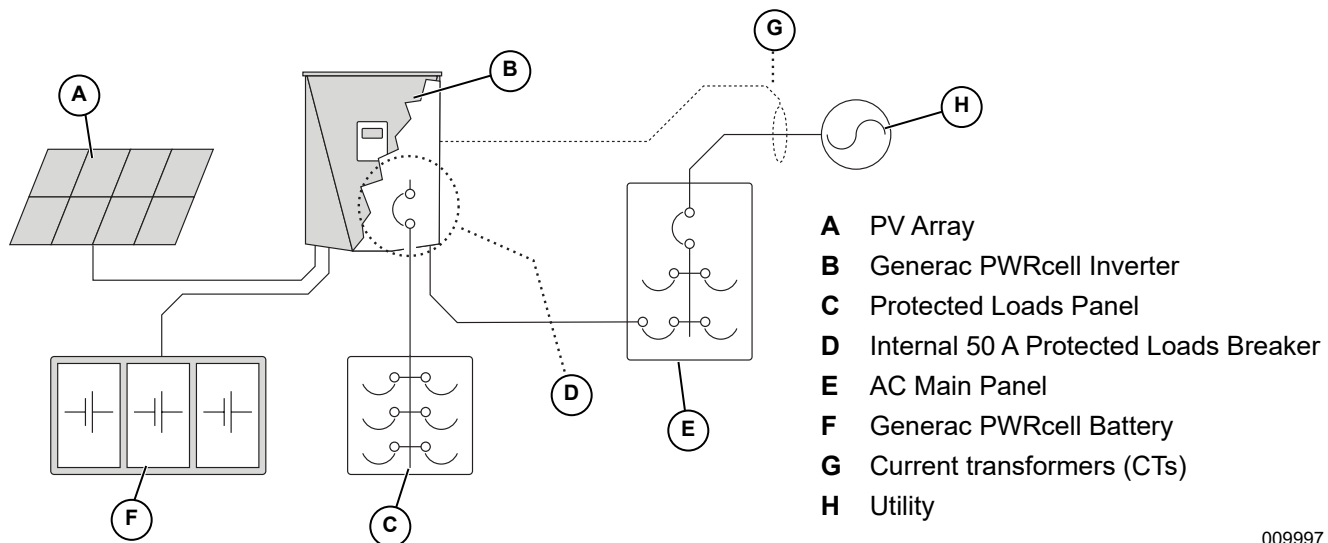

Figure 5-7. Connecting Current Transformers (CTs)
- See **Figure 5-7**. Install CTs around the main service conductors between the service meter and point of interconnection with subsequent service entrance panel/device.